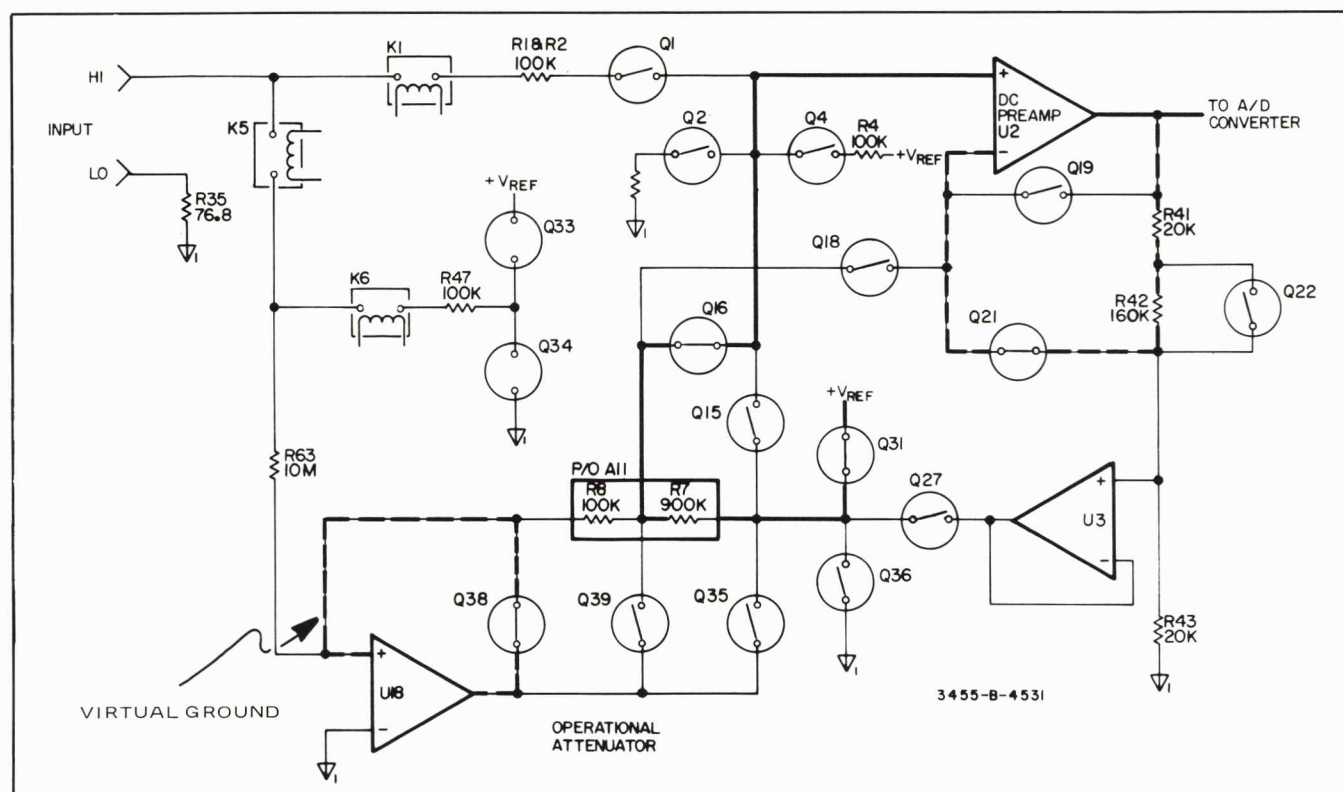

Figure 8-11. 1 V dc and 1 V dc Gain Error Measurement.
**8-28. .1 V dc and 1 V dc Gain Error Measurement.** On the 1 V dc range, the reference voltage is applied to the DC Preamp input through the precision ten-to-one divider (A11R7 and R8) by FET switches A10Q31 and A10Q16 (see Figure 8-11). The lower end of the ten-to-one divider is held at virtual ground by closing FET switch A10Q38. Output of the ten-to-one divider is 1 V dc. A DC Preamp gain of X10 is selected by FET switch A10Q21. The measurement result is stored by the main controller as the 1 V dc full scale constant.